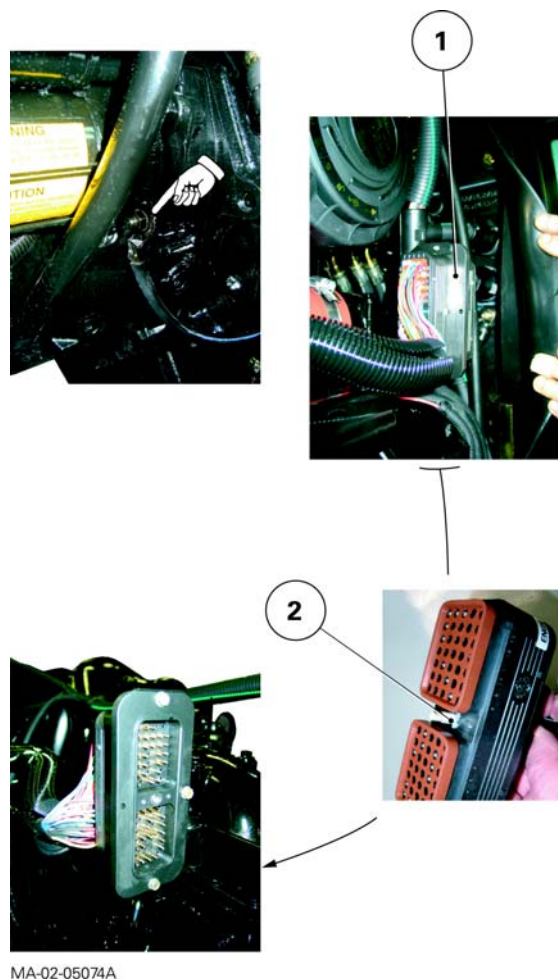

Fig. 19
- 42.** Disconnect the negative cables on the block at the rear left-hand side of the engine (Fig. 19).
- 43.** If necessary disconnect the connector (1) of the main wiring harness (Perkins EEM engine) (Fig. 19).